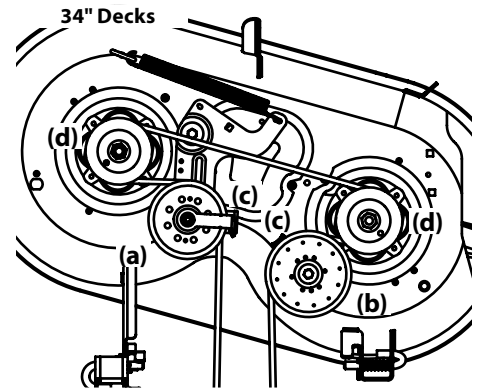
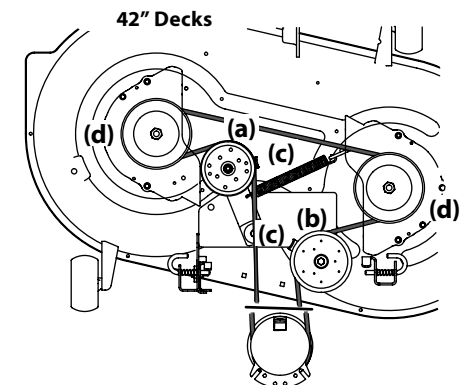
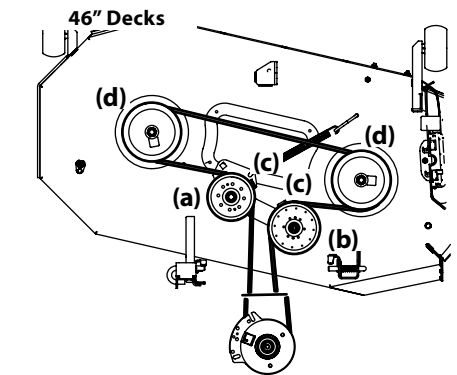
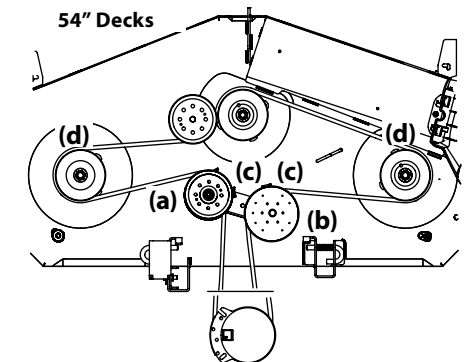

Figure 4-20
Figure 4-21
Figure 4-22
Figure 4-23
2. Loosen, but do not remove the hardware on the right (a) and left idler pulley (b). Refer to Figure 4-20 for 34" decks, Figure 4-21 for 42" decks, Figure 4-22 for 46" decks and Figure 4-23 for 54" decks.